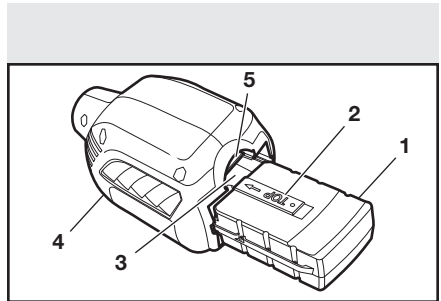

Fig. 3
Once the Power Cell has been fully charged and you are ready to start using the attachment, you will have to install the Power Cell (1) into the drive unit with Power Cell "TOP" label (2) facing upward (Fig. 3).
1. Slide the Power Cell into the matching cavity (3) in the rear of the upper cowling (4).